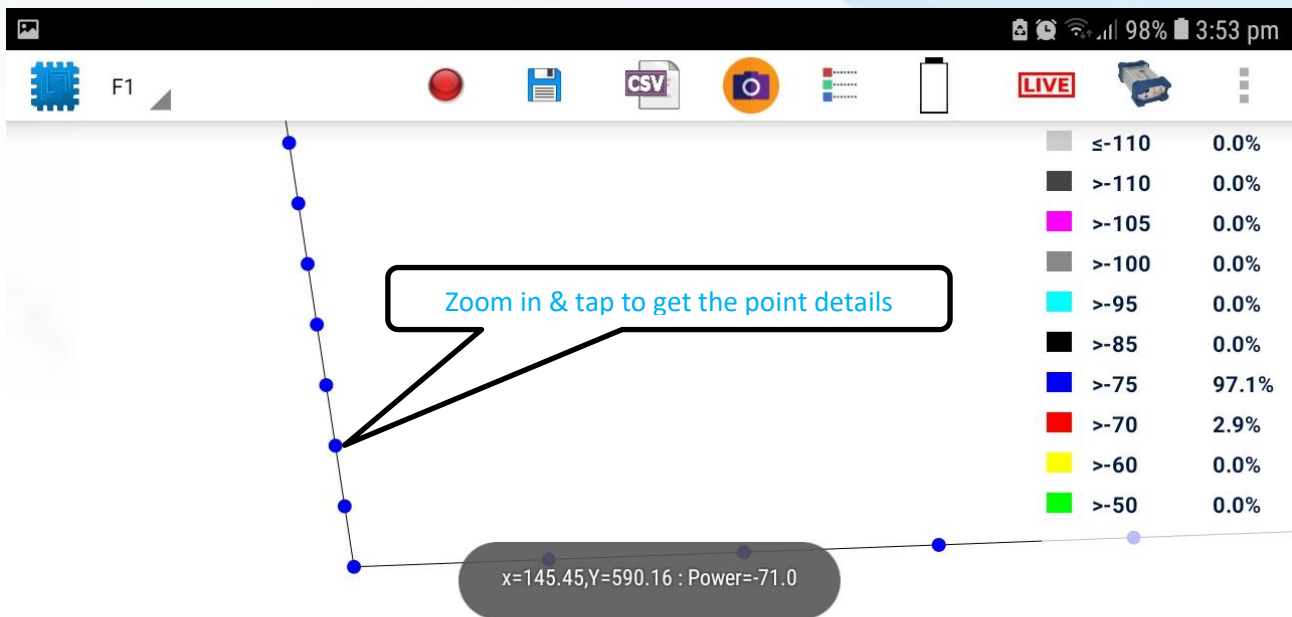

Figure 14: Displaying measurement point details
**Note:** At any measurement point on the floor plan, the user can zoom in and click to view its specific X/Y coordinates (Pixel unit) and power level as depicted in Figure 14 below,